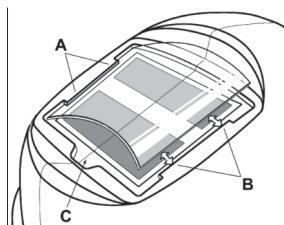

Figure 1
**Replacing Front Clear Lens:** Replace the front cover lens if it is damaged – cracked, soiled or pitted. Place your finger or thumb into recess (C) at the bottom edge of the cover lens and flex the lens upwards until it releases from the edges marked A and B. (Refer to figure 1). Use only the replacement front cover lenses specified in this manual.